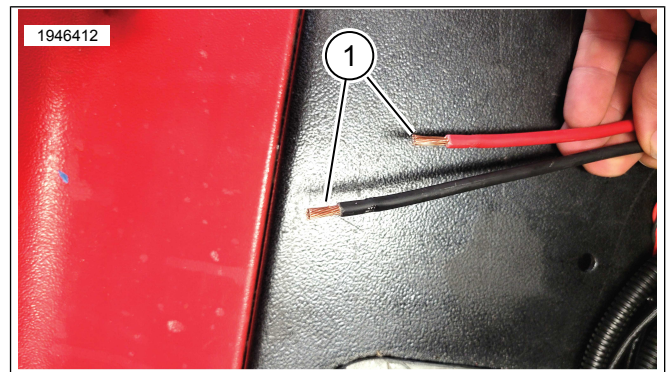

Figure 12.
8. See Figure 12. Strip both wire back ½ inch (12.5 mm).